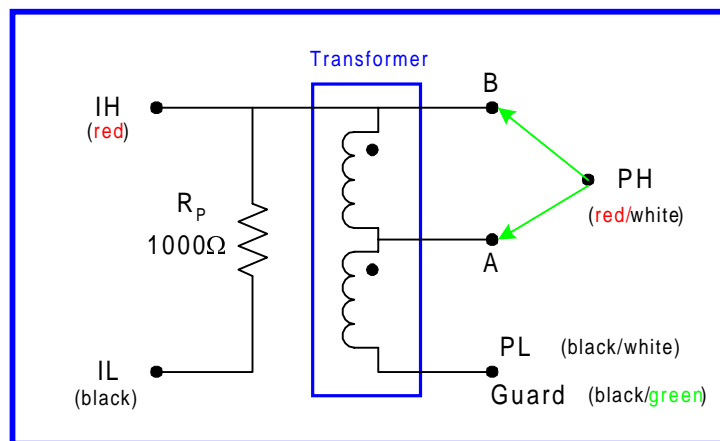

Figure 1: Test Setup
1. Connect the transformer to be measured as shown in Figure 1. Connect PH to position B.